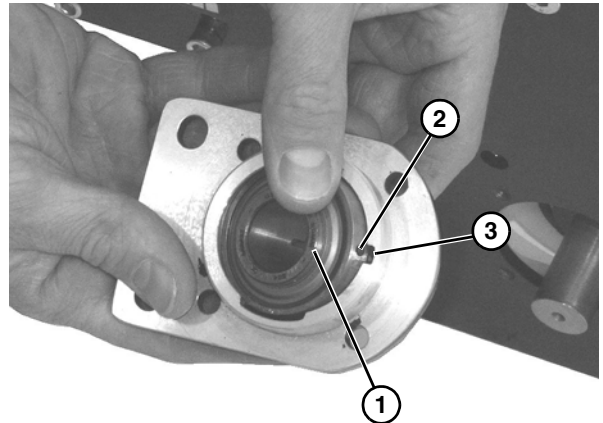

Figure 48
2. Insert bearing (Figure 48, item 1) into housing slot: Locate anti-rotation nub (Figure 48, item 2) to align with slot (Figure 48, item 3), and twist bearing into housing.